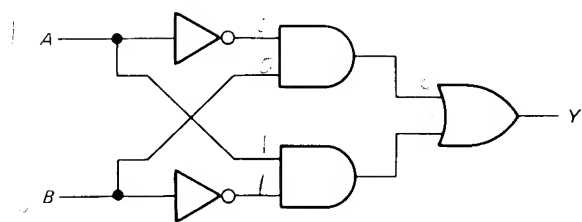

Fig. 2-23
- 2-20. If both inputs are high in Fig. 2-23, what is the output? What is the boolean equation for the circuit? Describe the truth table.
- If both inputs are false in Fig. 2-23, what is the output?
- What is the output in Fig. 2-23 if one input is false and the other true?
- In Fig. 2-23 what is the output if all inputs are true?